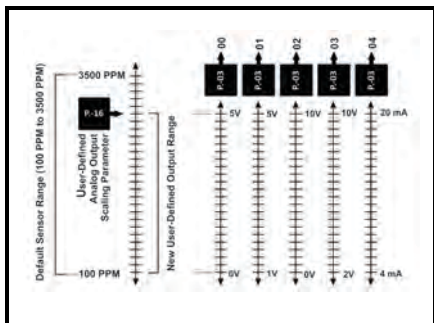

Figure 5-2 - Analog Output Scaling Options
**NOTE:** The analog output signal range is from 100 PPM to the default value of 3500 PPM, which is scaled across the actual output range selected by the analog output type parameter P.-03. The upper PPM limit is programmable using analog output scaling parameter P.-16. This parameter sets the full scale PPM value creating a PPM range across which the analog output is scaled. See Figure 5-2 for more details.